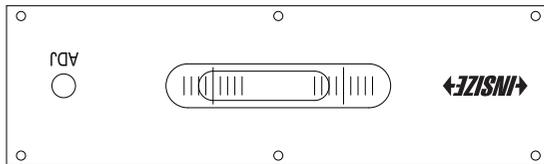

Fig.8
- c) Turn the level 180°, slide the level at the same position of the surface (Fig.8).